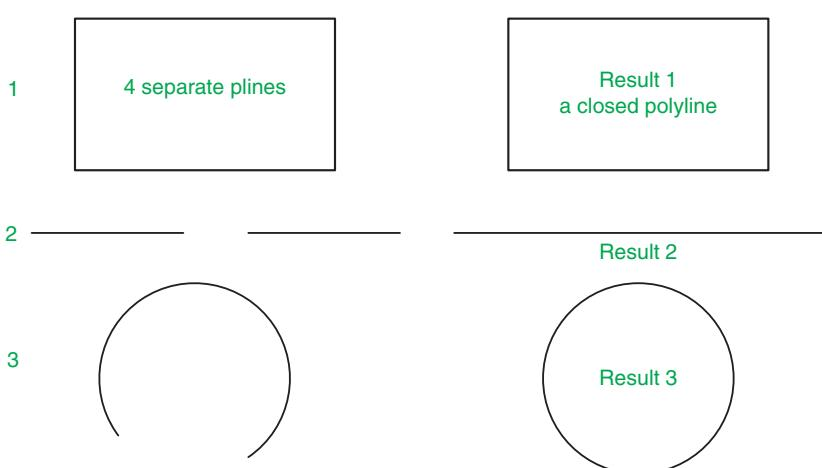

Fig. 5.38 Examples – **Join**
Examples – Join (Fig. 5.38)
1. Construct a rectangle from four separate plines – drawing 1 of Fig. 5.38. Construct two lines – drawing 2 of Fig. 5.38 and an arc – drawing 3 of Fig. 5.38.
The results are shown in Fig. 5.38